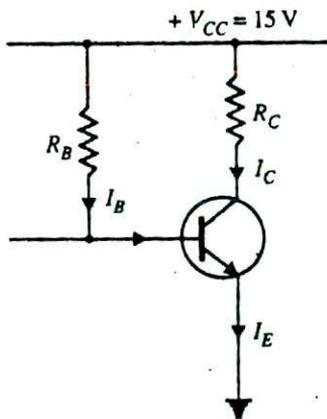

Fig. 11.10
**Solution.** Fig. 11.10 shows CE amplifier using base resistor method of biasing.